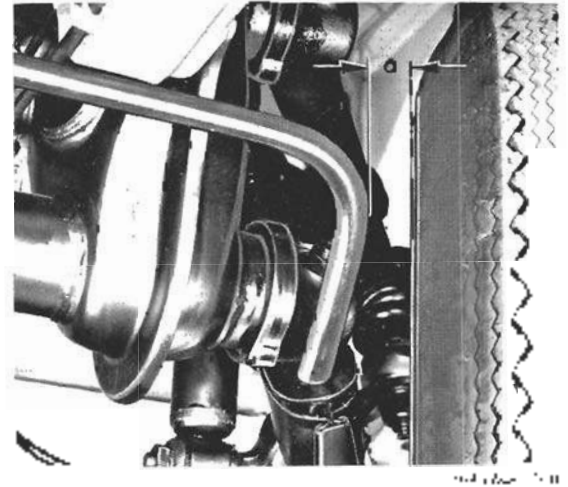

Fig. 3-5. Clearance *a* between tire and stabilizer bar should be 20 mm (¾ in.)
- 2 Turn the front wheels fully to the right and to the left. In either position, the clearance between the tires and the stabilizer bar should be 20 mm (¾ in.) as indicated in Fig. 3-5.